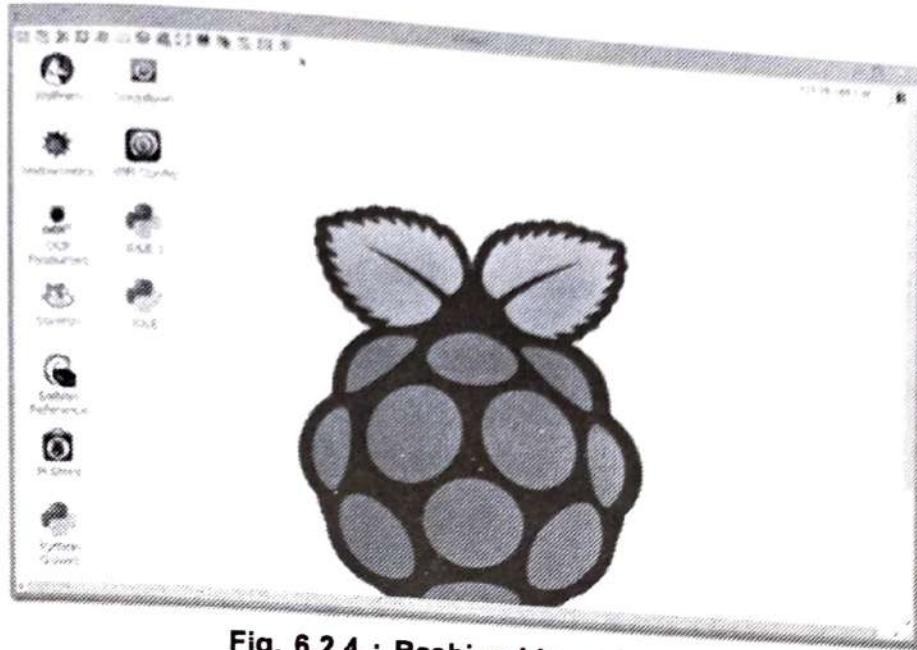

Fig. 6.2.4 : Rasbian Linus desktop
- GUI stands for Graphical User Interface and is a type of operating system. It is the most common type of user interface as it is a very 'friendly' way for people to interact with the computer. It makes use of pictures, graphics, icons and pointers, hence the name 'Graphical' User Interface. Fig. 6.2.4 shows Rasbian Linux desktop